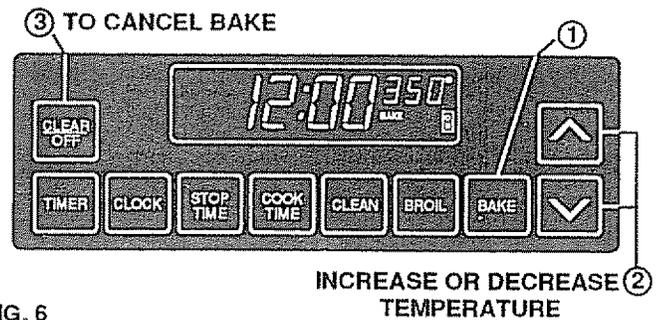

FIG. 6
3. After baking is complete, press **CLEAR/OFF**. See Fig. 6.